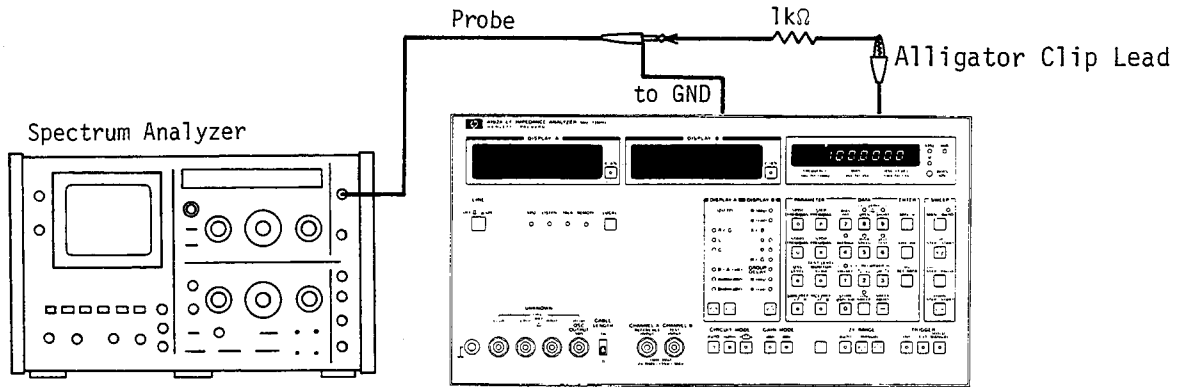

Figure 5-4. A4 API Adjustment Setup.
- a. Connect the high input of the Spectrum Analyzer to A4TP1 through the 1kΩ resistor and connect the low input to the chassis as shown in Figure 5-4.